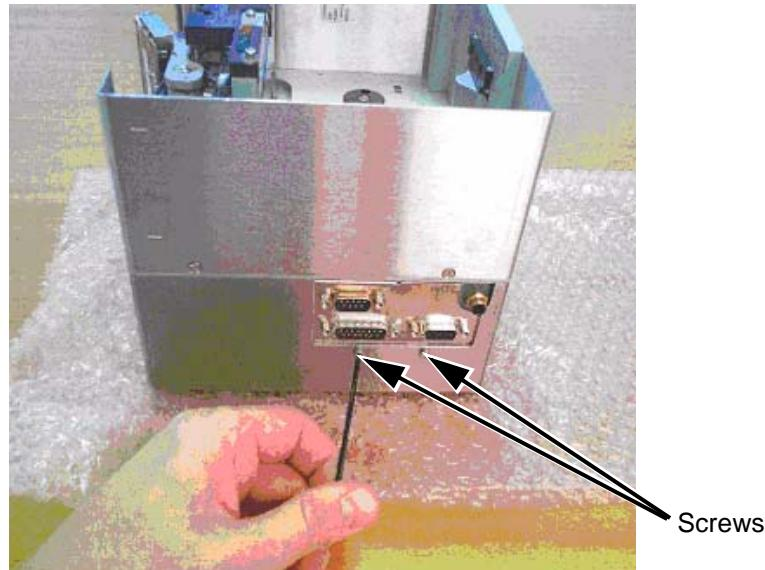

Figure 5-18: Printer Rear Cover Side Panel Screws Removal
- 4 Remove the screws from the side panel as shown in Figure 5-18.